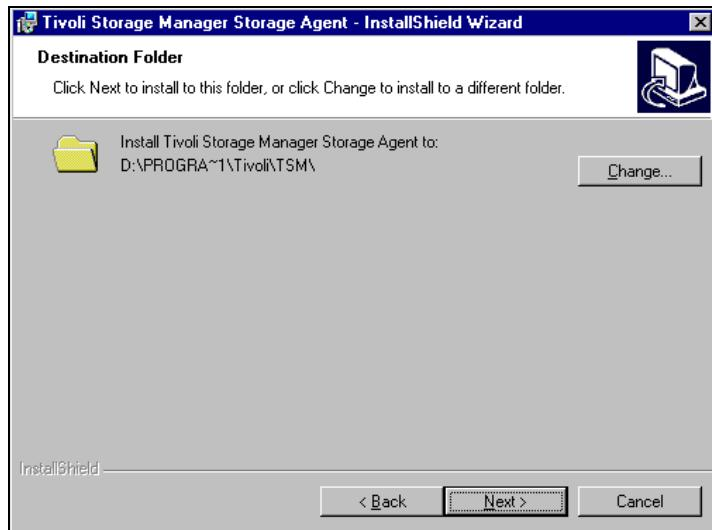

Figure 49. Installing the Storage Agent
1. From Windows Explorer, click on **setup.exe**. Just as with other Windows-based products, a setup wizard will guide you through the installation process. If you do not want to install the Storage Agent to the default destination, change the destination folder (Figure 49).